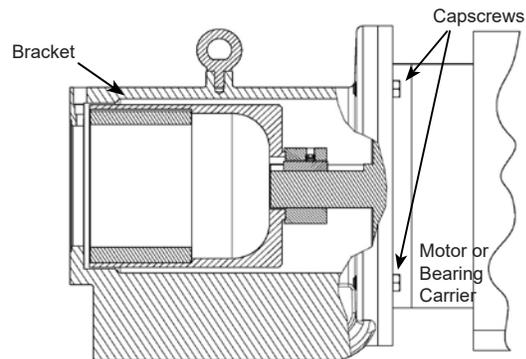

FIGURE 12
5. You should be able to visually inspect the outer magnets from the end of the bracket. If removal is necessary, start by removing the (4) capscrews (See Figure 12) and separate the bracket from the motor or bearing carrier. Loosen the 2 setscrews on the outer shell hub and slide the outer magnet assembly off the shaft. If the unit features a bearing carrier, refer to Page 9 for disassembly of the bearing carrier housing.